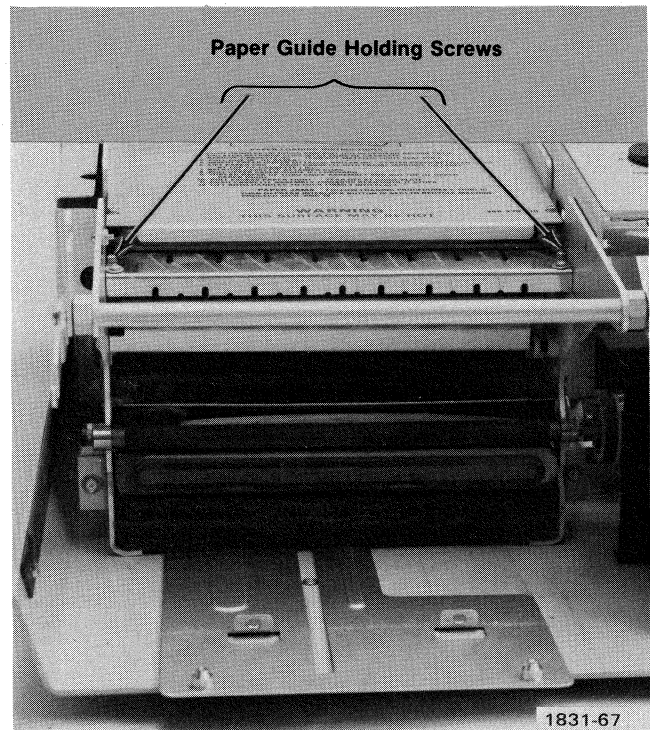

Fig. 4-11. Paper guide.
3. Remove the paper guide (Fig. 4-11) by loosening the screw on either side, toward the rear of the instrument. DO NOT loosen the two screws toward the front.